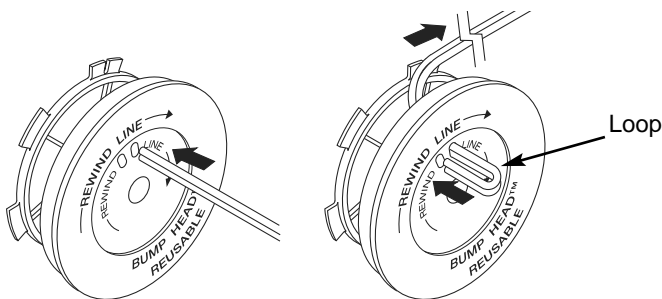

Fig. 21
8. Take approximately 9 feet (2.7 m) of new trimming line. Insert one end of the line through one of the two holes in the inner reel (Fig. 21). Pull the line through the inner reel until only about 4 inches is left out.
9. Insert the end of the line into the open hole in the inner reel and pull the line tight to make the loop as small as possible (Fig. 21).